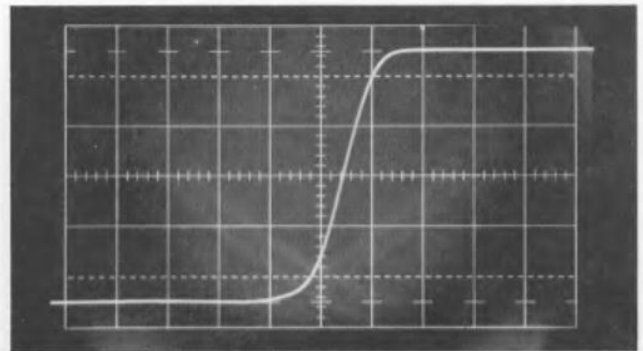

Fig. 4-19. Crt display for risetime measurement.
j. Measure the risetime between the 10% and 90% points on the waveform (see Fig. 4-19).